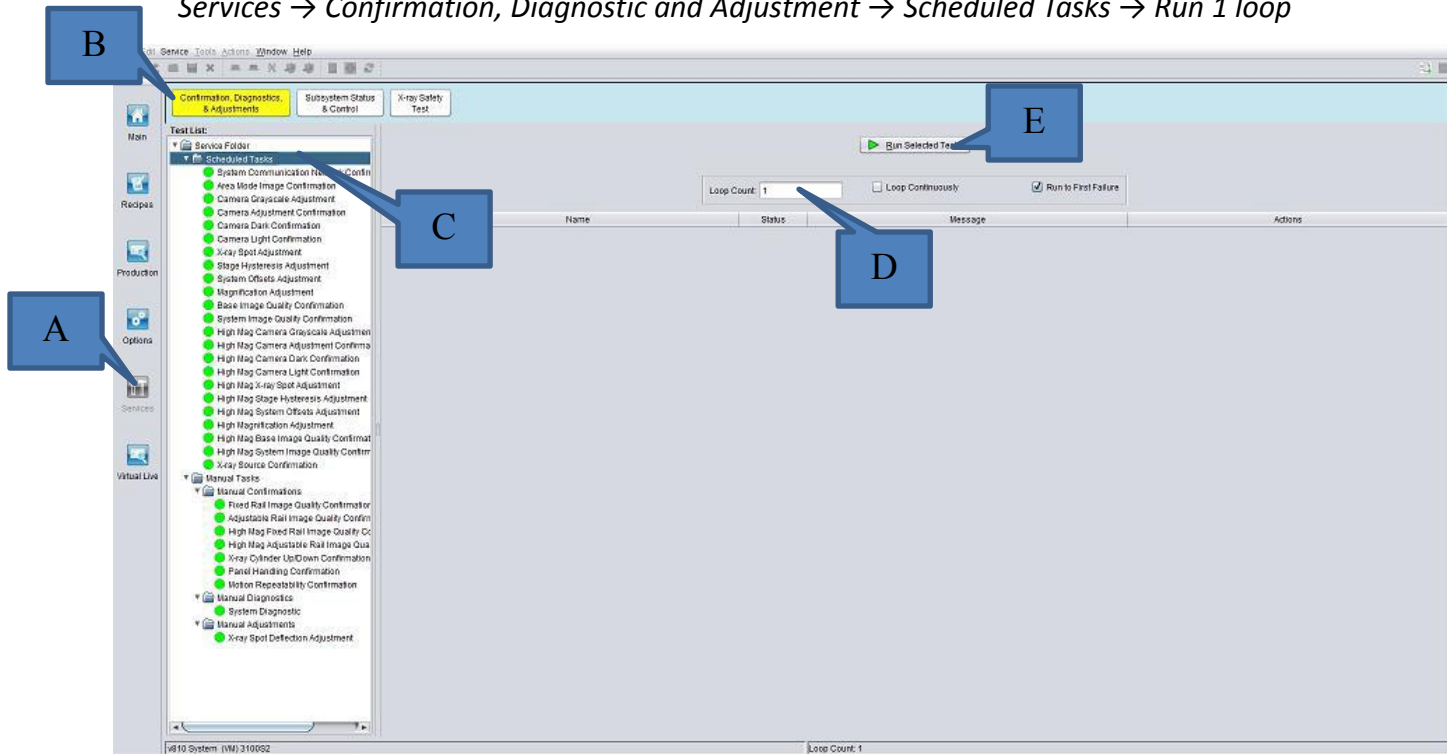

Figure 5
5. Go to Confirmation, Diagnostic and Adjustment tab and perform 1 loop full CD&A task to obtain latest log file as show in Figure 5.